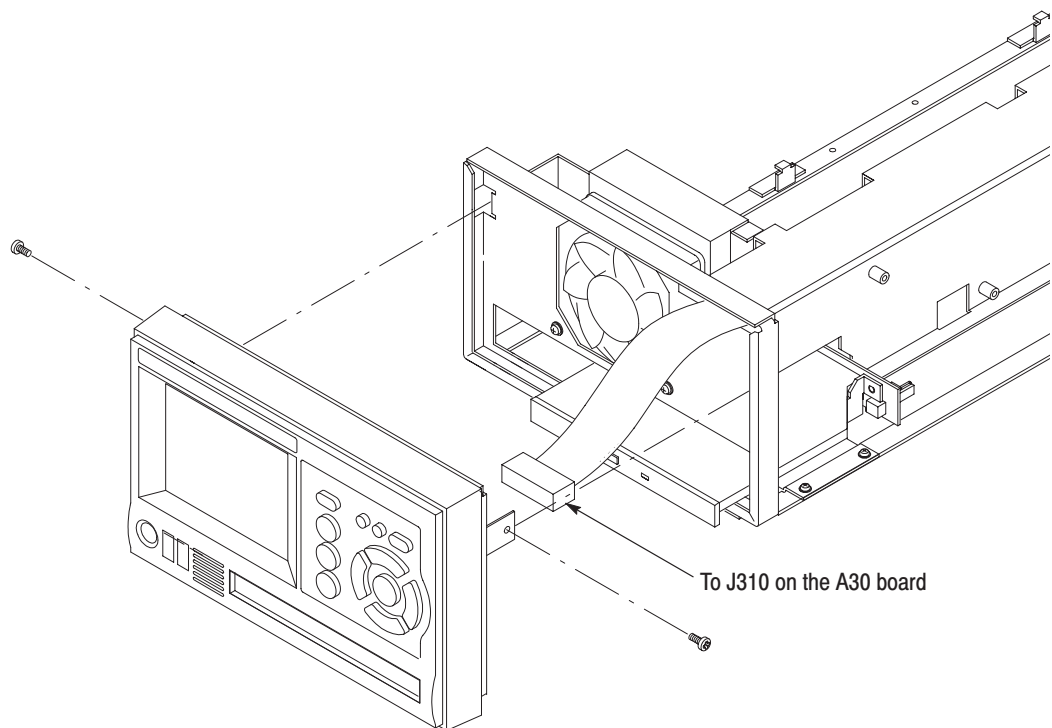

Figure 6-8: Front-panel unit removal
3. *Remove front-panel unit:* See Figure 6-8.